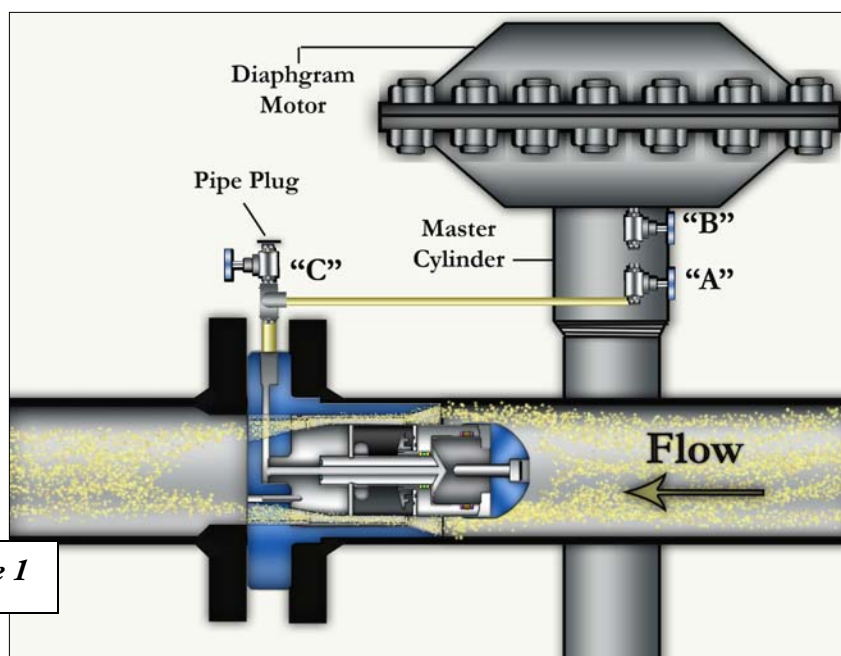

Figure 1
2.2 INSTALLATION INSTRUCTIONS (*Refer to Figure 1 on page 5*)
OPTION 1 (*See Figure 1*)